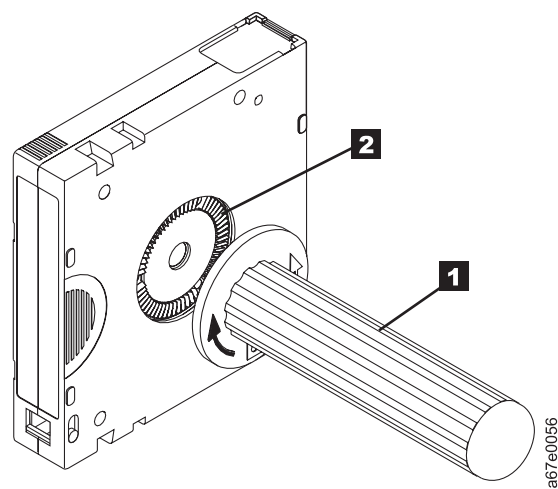

Figure 37. Rewinding the tape into the cartridge
5. To rewind the tape, insert the cartridge manual rewind tool (**1** in Figure 37) into the cartridge's hub (**2**) and turn it clockwise until the tape becomes taut.